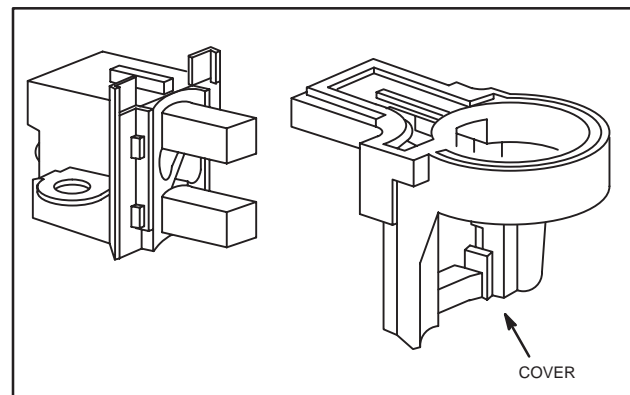

Fig. 40 – Install Brush Cover
8. Assemble cover to brush holder, Fig. 40.